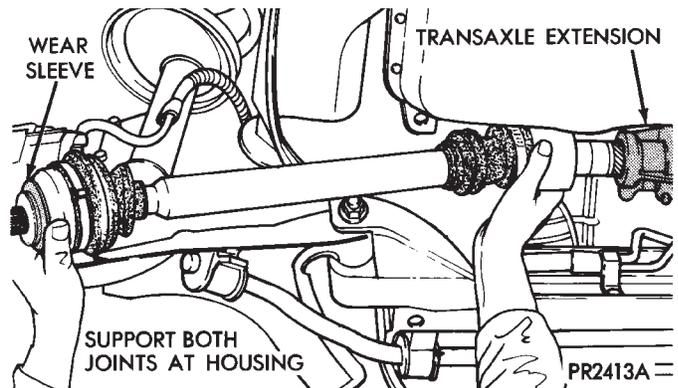

Fig. 10 Removing Driveshaft Assembly Unequal Length
(5) Support assembly at C/V joint housings. Remove by pulling outward on the inner joint housing. **DO NOT PULL ON SHAFT (Figs. 10 and 11).** The driveshaft, when installed, acts as a bolt and secures the hub/bearing assembly. If the vehicle is to be supported or moved on its wheels, install a bolt through the hub to ensure that the hub bearing assembly cannot loosen.